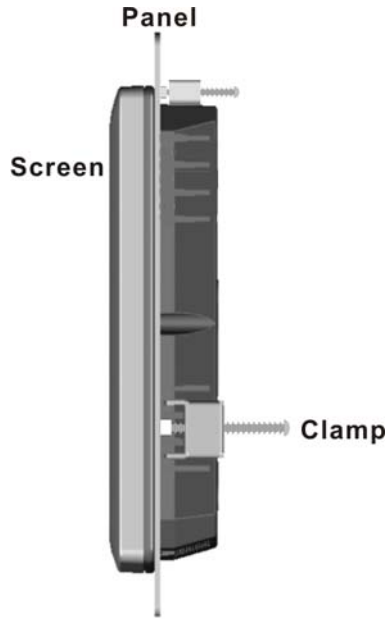

Figure 4-10: Secure the Rack/Cabinet Bracket
- Step 3:** Tighten the screws that pass through the rack mounting clamps until the plastic caps at the front of all the screws are firmly secured to the bracket (**Figure 4-10**).